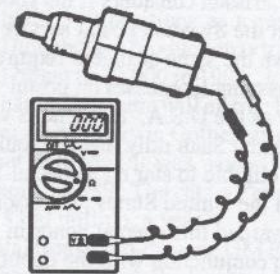

Figure 5. Testing function of brake light switch
16. Test function of brake light switch. You should have continuity (0.00) between the two switch terminals just as you begin to depress the brake pedal. When the brake pedal is released against its stop, the contact should be open. (See Figure 5.)